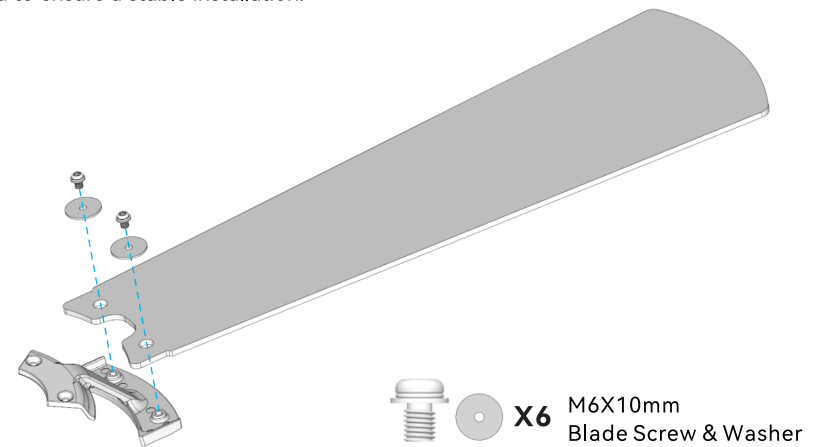

Fig. 1.1
- 1.1 Locate 6 blade attachment screws and washers in the hardware pack. Secure each blade to the blade bracket with the screws and washers as shown in Fig.1.1.